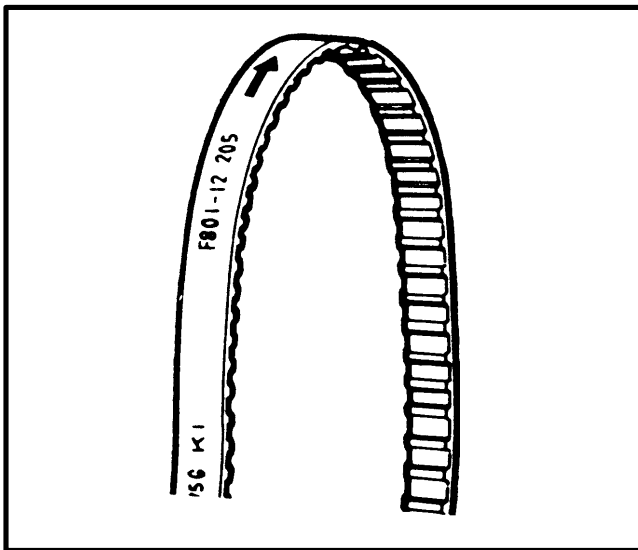

FIGURE 1. TIMING BELT
8. Use chalk to mark the direction of rotation of the timing belt. Remove the timing belt. See FIGURE 1.